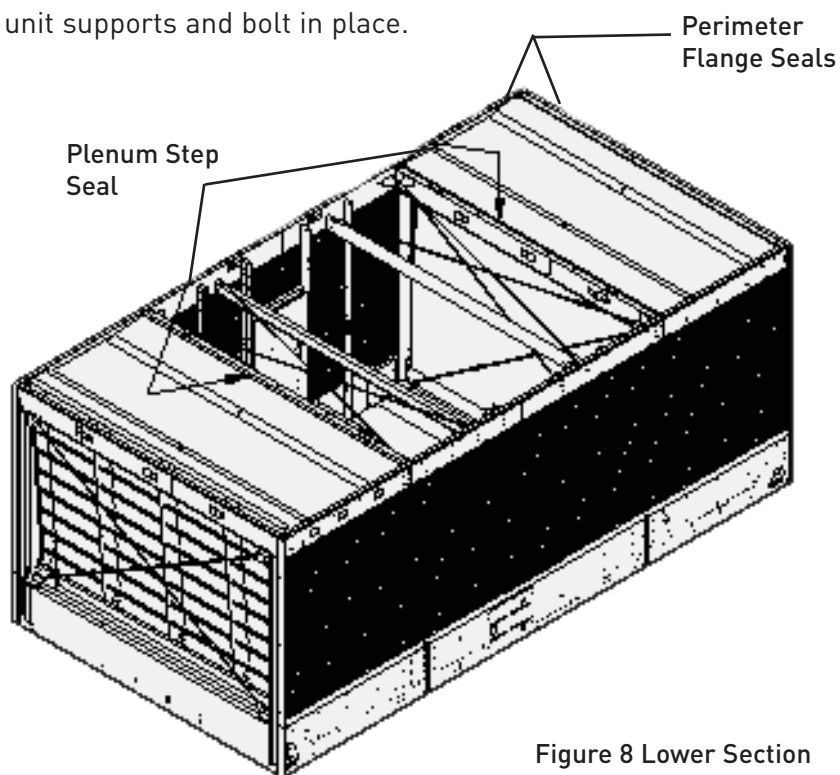

Figure 8 Lower Section
- Wipe moisture and dirt from the perimeter flange and plenum step shown in Figure 8.